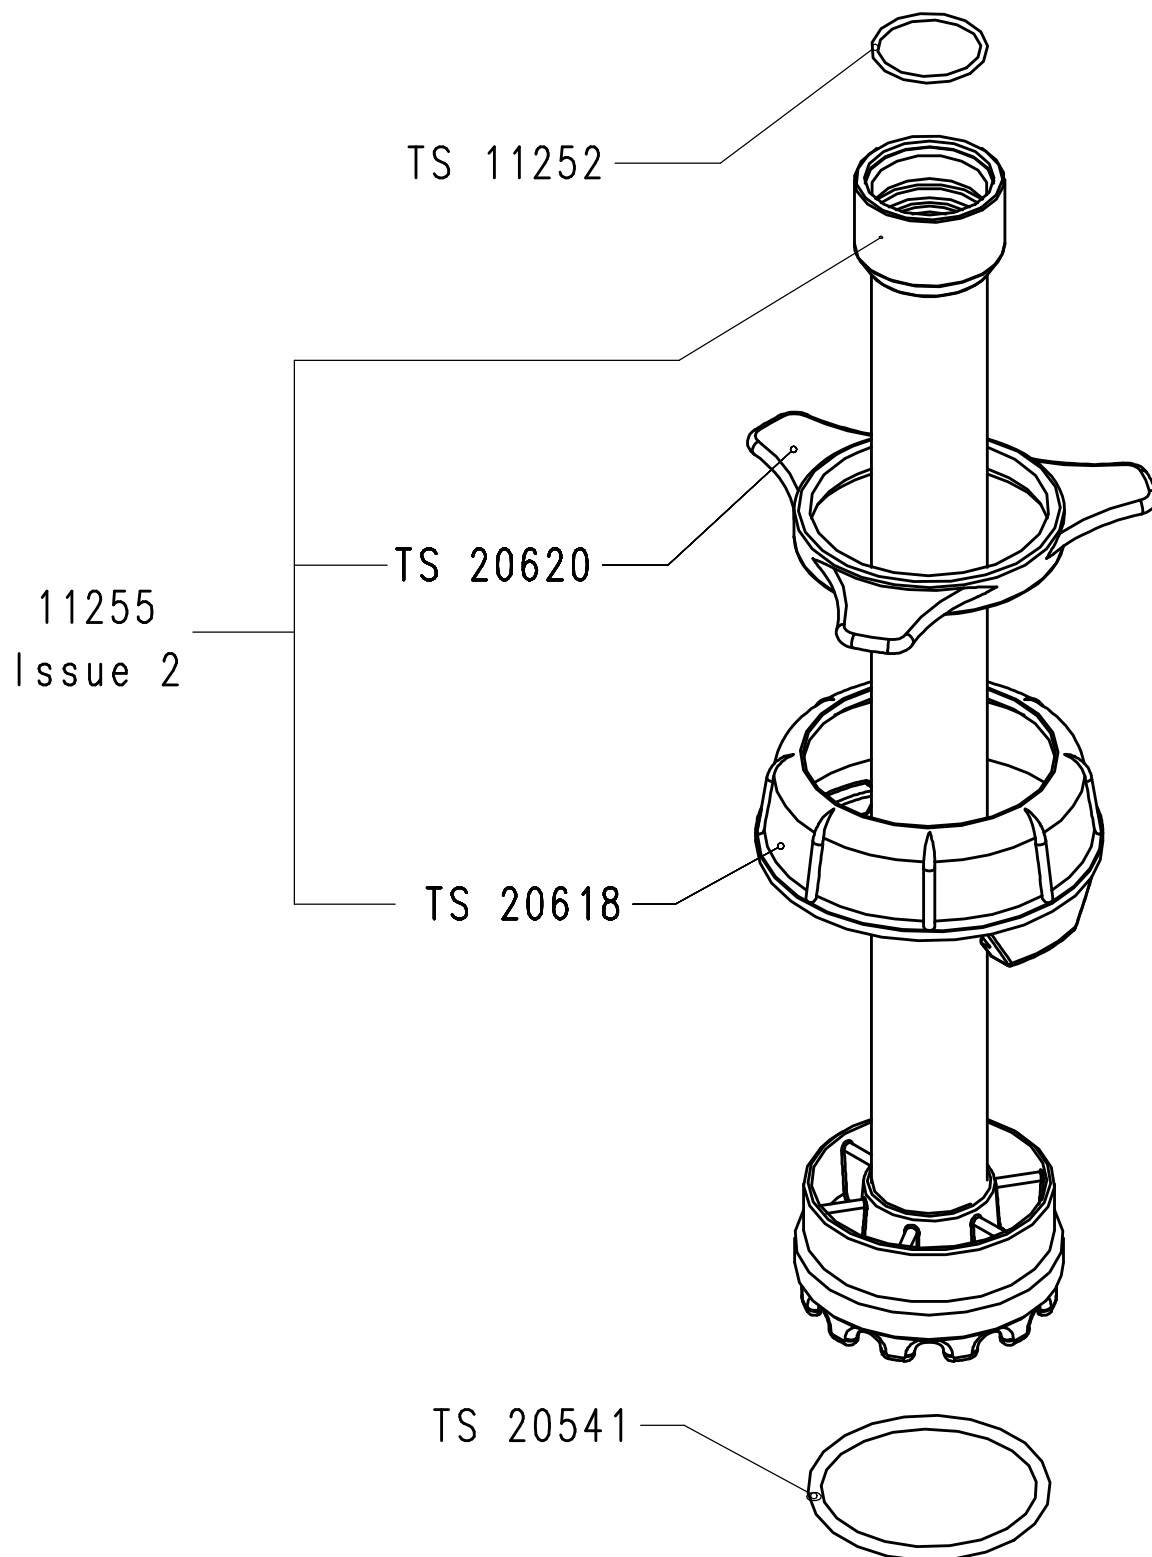

Figure 12-6: storage tube SS1-Q2 TS 10183, details
- Figure 12-6: storage tube SS1-Q2 TS 10183, details